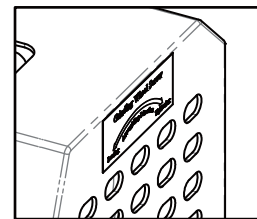

Fig. 11-1
- ① Unplug the power cord and make sure the power is off.
- ② Confirm the screw direction on the grinding wheel cover before changing the grinding wheel. (Fig. 11-1)